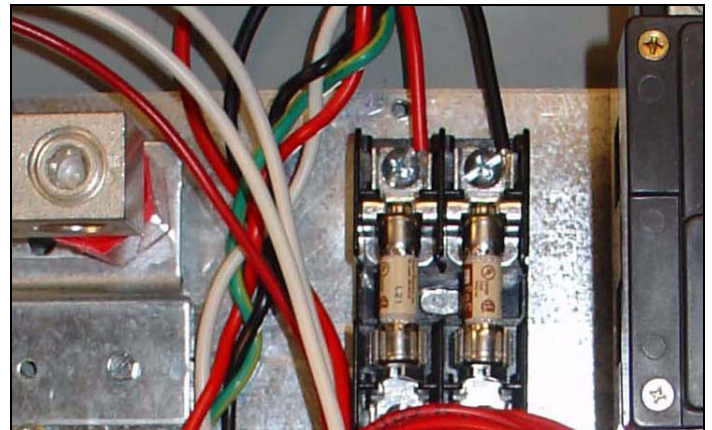

Figure 67. TVSS Red and Black Wires Connected to the TVSS Fuse Block.
Step 8: Connect the red and black TVSS wires to the TVSS fuse block, as shown, using a blade screwdriver (see Figure 67).